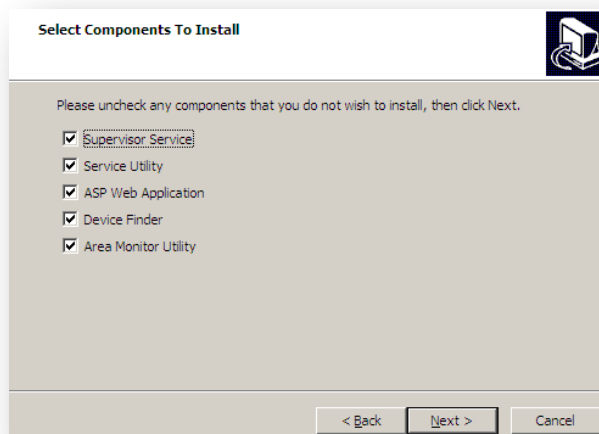

Figure 12 – Model 375 Web Page and Supervisor Service Selection Screen 1
4. Click “Next” to accept the default component selections. See Figure 12.